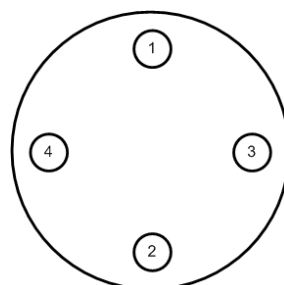

Figure 46 Screw Tightening Order
- Tighten the camera assembly screws in a star pattern (see Figure 46, Screw Tightening Order).